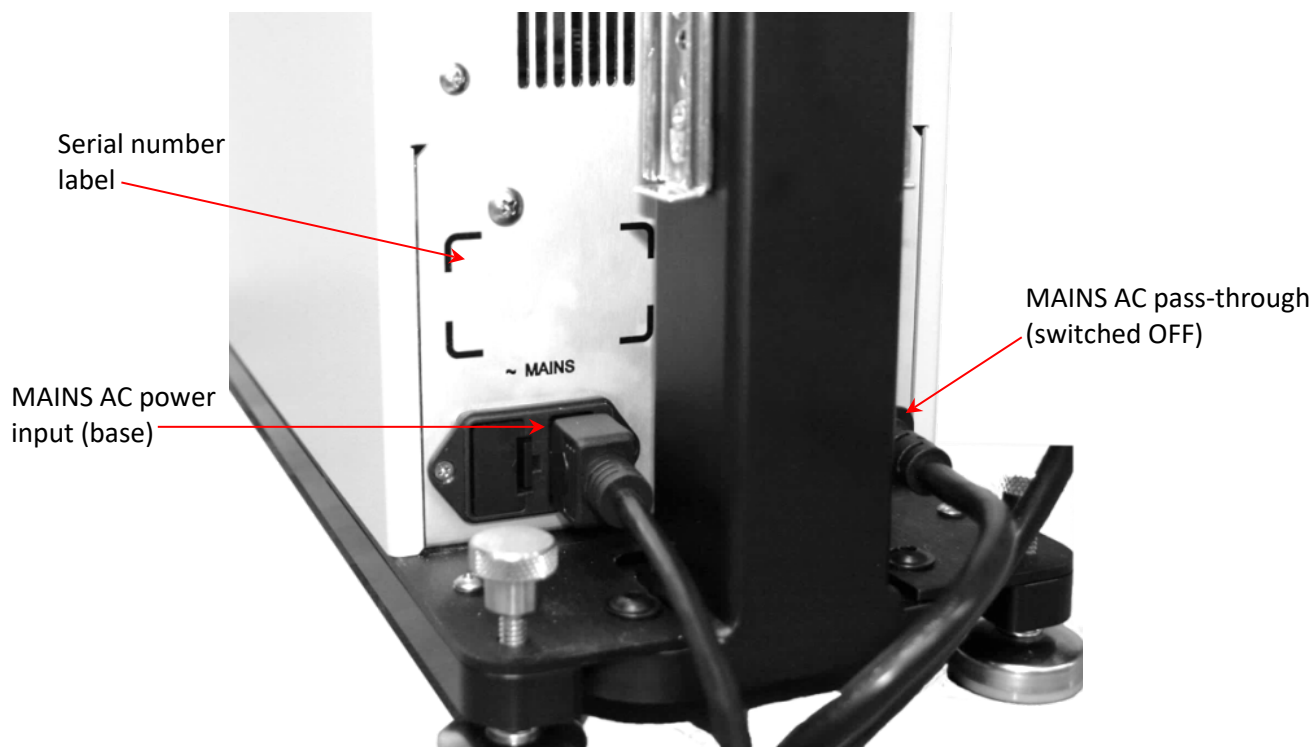

Figure 10: TESC-5133 Base Unit Connections
The TESC-5133 system is shipped with all primary cables included. Refer to Figure 10 as needed.
4. Connect the MAINS AC power cable to the Base Unit and a wall outlet. Refer to Figure 10.